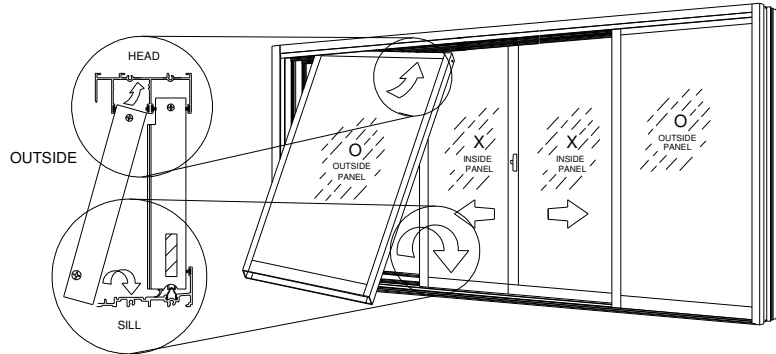

Figure 32:
4. Push up and swing the bottom of the panel in and down into the grooves in the threshold (Figure 32).